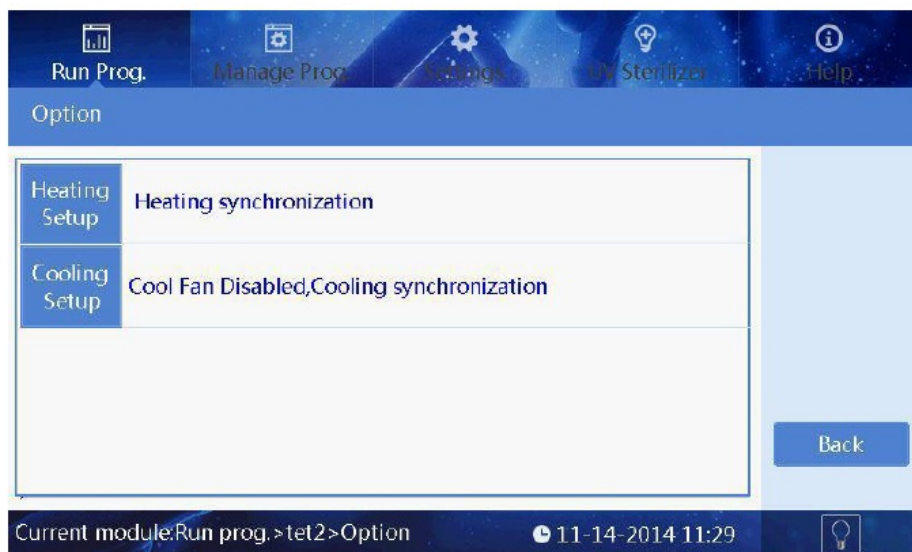

Fig 19
- “Option”: view settings of the program, please see Fig 19.